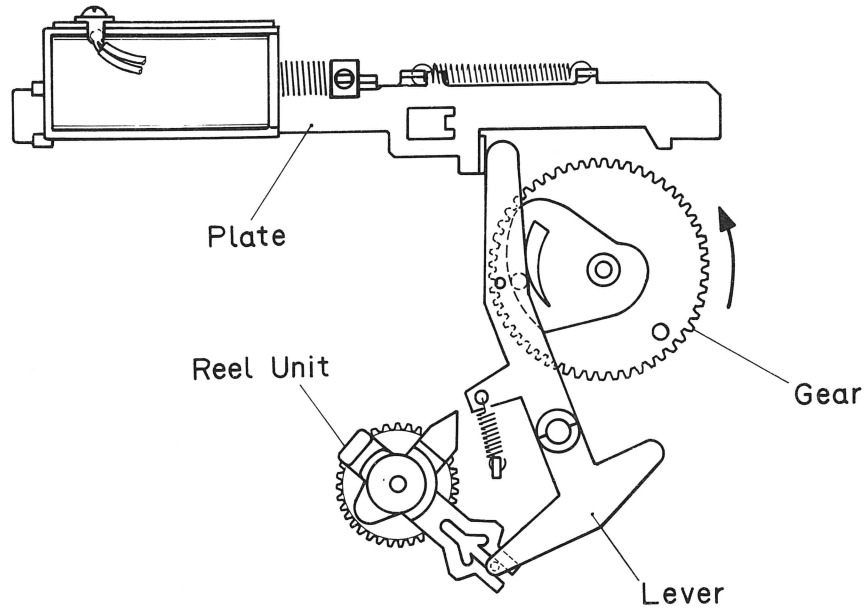

Fig. 8
2. When the take-up reel unit is rotating during play, record, fast forward or rewind mode, the reel unit arm presses against the lever which is consequently forced to run around the inside of the gear groove. (Fig.8)